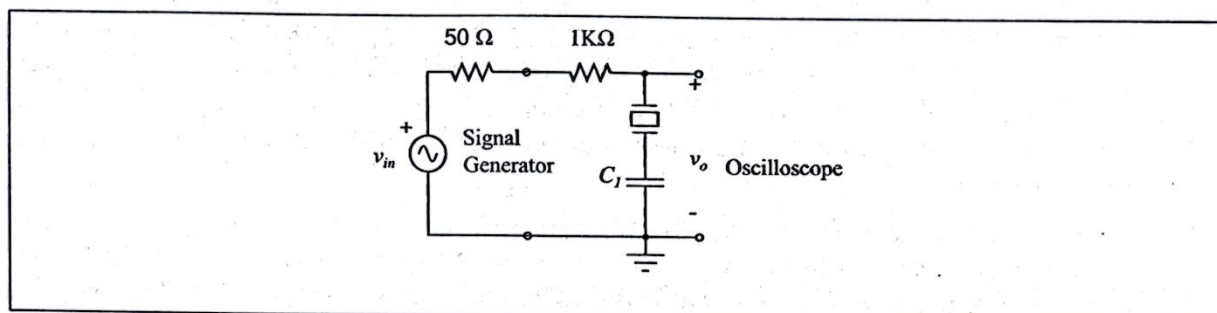

Figure 3: Quartz crystal measurement setup with a series capacitor.
- Solder a $C_1=5.6$ pF capacitor in series with the crystal as shown in Fig. 3. Determine the resonance frequency, f_{s1} , of the new circuit within 10 Hz. Find the difference, δf , between the resonance frequencies with and without 5.6 pF capacitor in series. Note that the minimum voltage observed in this measurement is higher than that in the measurement without the capacitor, since the capacitor, C_1 , also has a finite series resistance of its own.